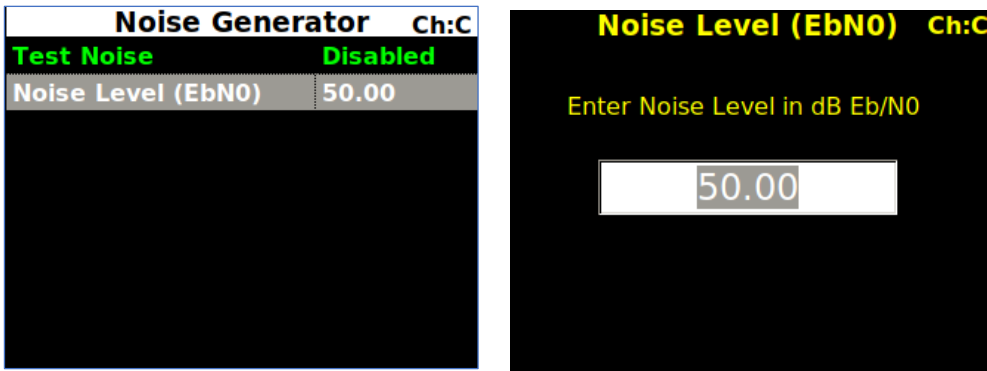

Figure 136: Noise Generator, Noise Level Selection
- Noise Level -Sets the noise level to use in the test in dB E_b/N_0 , as shown in Figure 136